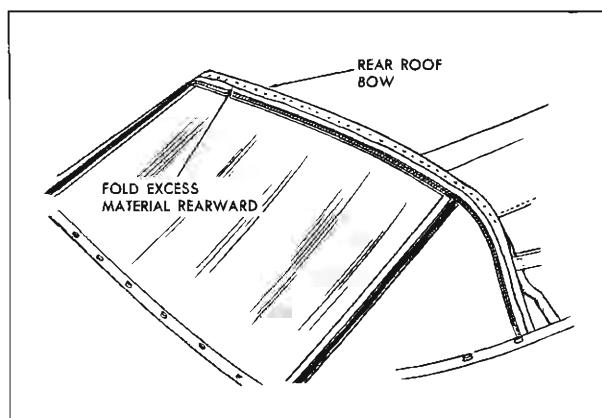

Fig. 21-45 Back Curtain Installation at Rear Roof Bow
17. Working from body center progressively outboard to right and left sides, tack back curtain upper valance to rear bow. Make sure all fullness has been drawn from back curtain assembly. Fold excess back curtain upper valance material rearward and tack to rear bow (Fig. 21-45).